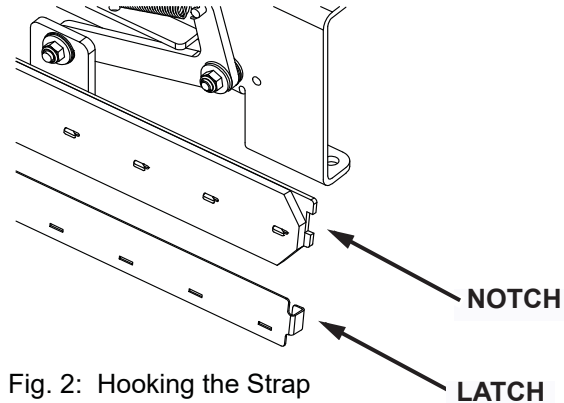

Fig. 2: Hooking the Strap
7. Remove the squeegee retainer bands. (See Fig. 2)
6. Replace the side squeegee retainer strap by first hooking the forward end around the notch at the front edge of the side squeegee frame. (See Fig. 2)